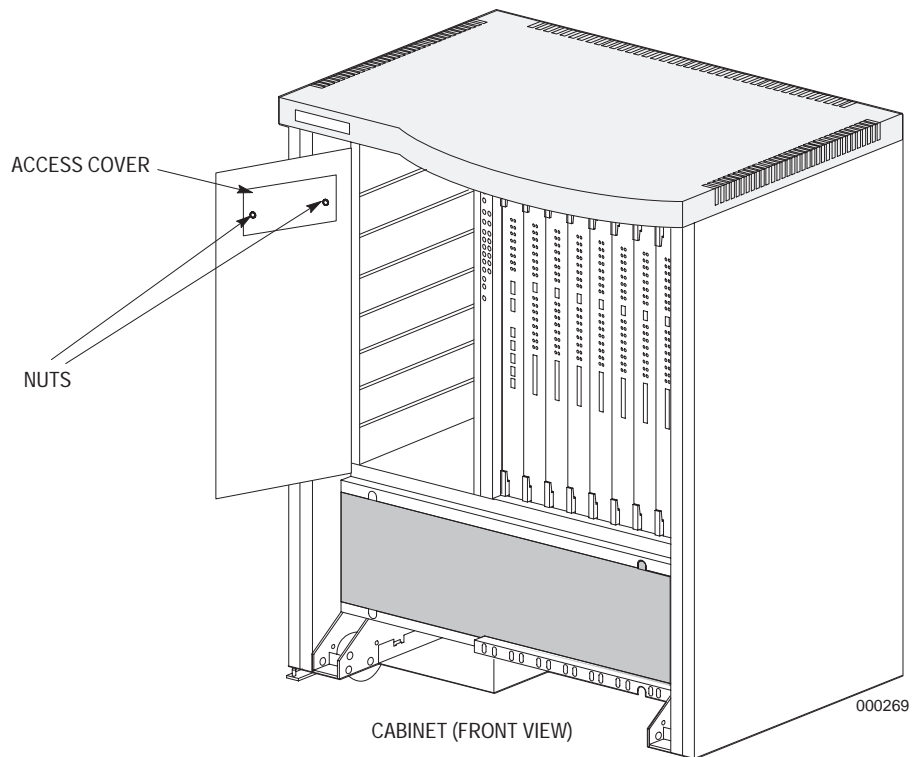

Figure 12-13. Location of Access Cover and Nuts.
3. Use pliers or an open-end wrench to remove the nuts that secure the tape-drive access cover to the inside of the drive-bay door, as shown in Figure 12-13. Remove and discard the nuts and cover.